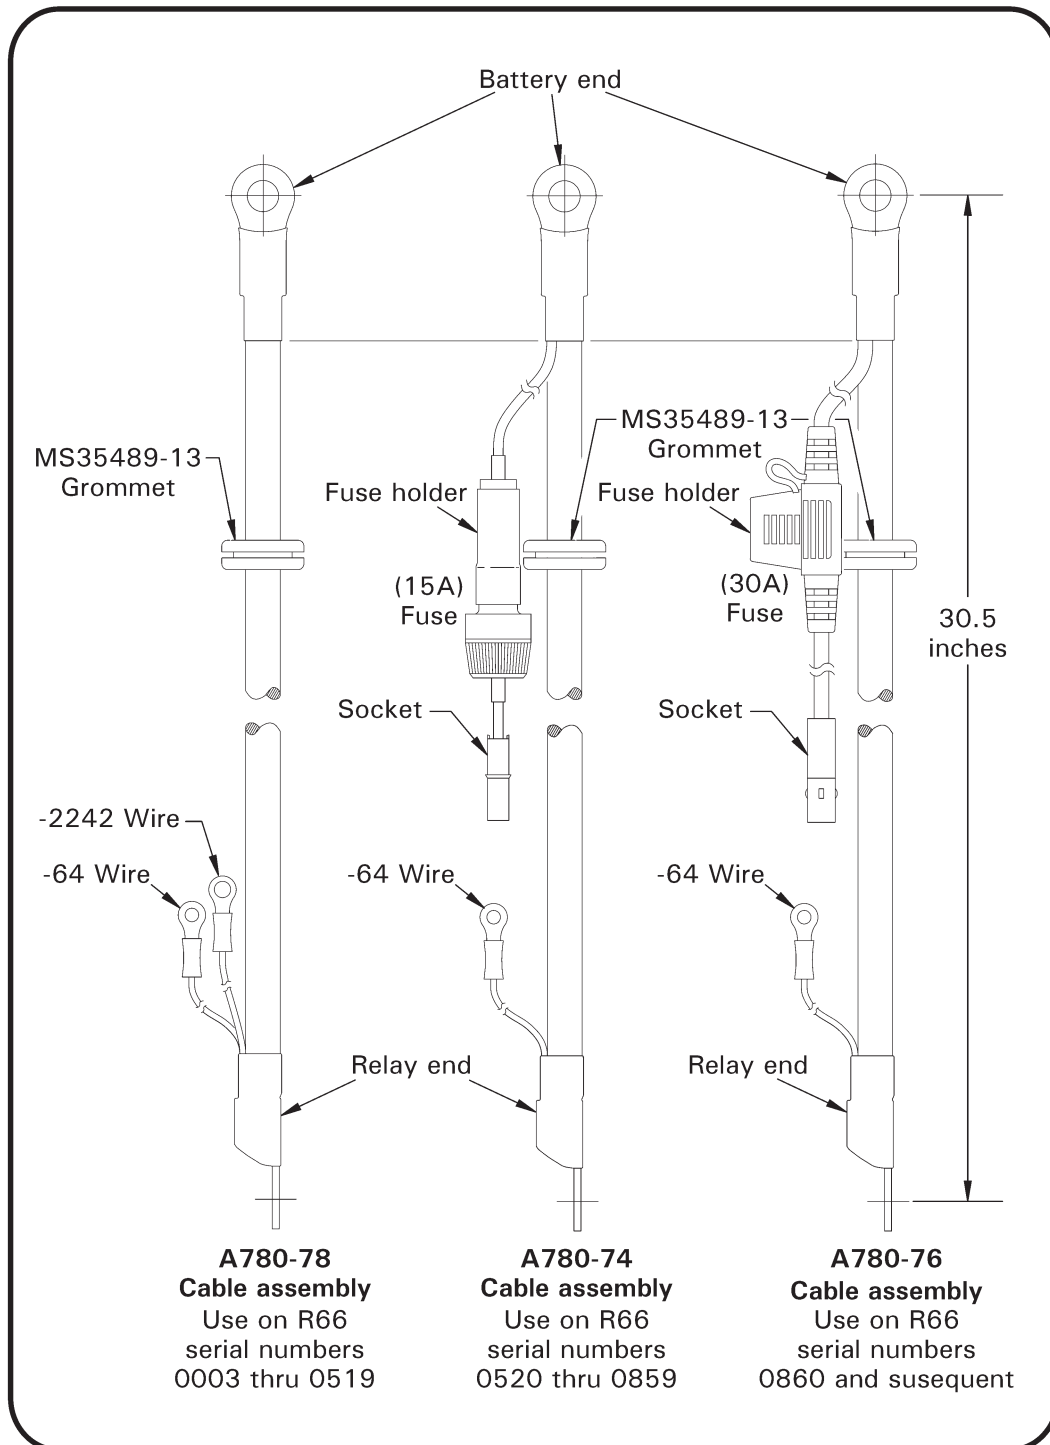

FIGURE 4 Replacement A780 battery power cable assemblies
10. Refer to Figure 4. Position (1) MS35489-13 grommet on battery-end of new A780-74, -76, or -78 cable assembly, as appropriate to helicopter serial number. Grommet must seat on cable only and not on fuse holder wiring.